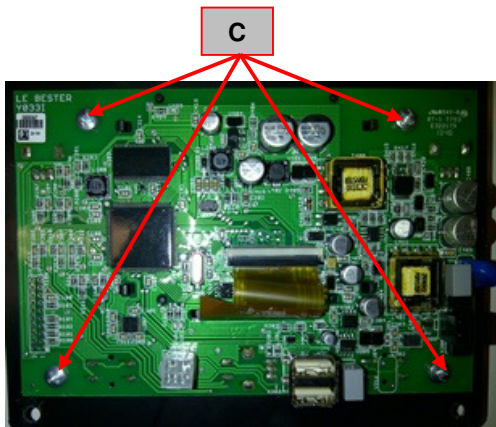

Figure 16
8. Using the phillips PH02 screwdriver remove the four screws (C) that are fixing the UI board to the front UI metal panel. See **Figure 16**.
10. Using the 14mm wrench remove the three sleeve nuts (D) from the encoders. They have to be installed to the new UI board.